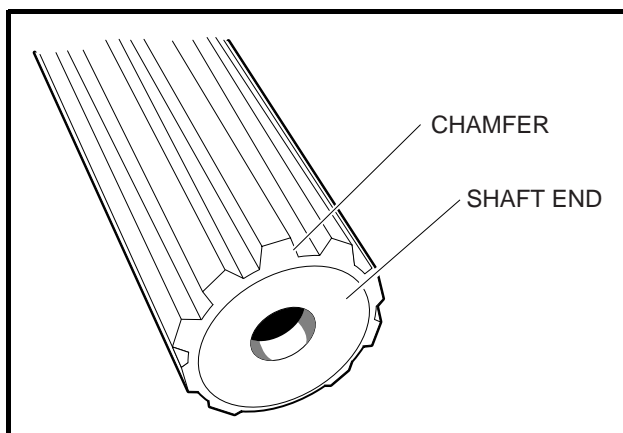

Figure 16-16 Clean Chamfer and Input Shaft End
- 2.6. Check the chamfer and end of the input shaft to ensure these areas are completely clean of grease as shown (Figure 16-16, Page 16-13).